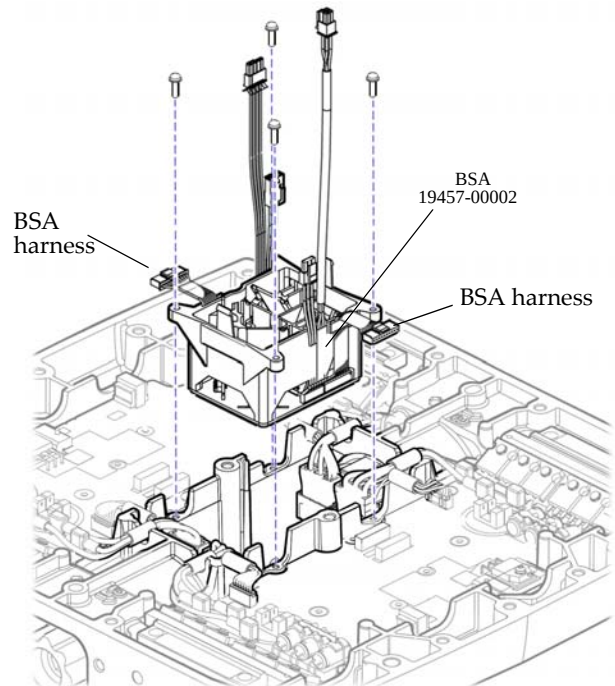

Figure 12-2: Disconnect Balance Sensor Assembly Harnesses from CU Boards
3. Thread (4) pan-head, M3 x 0.5 x 12, non-self-tapping screws (20972-00001) through balance sensor assembly mounting tabs and into chassis. See Figure 12-2.
5. Insert and seat (2) balance sensor assembly harnesses into A and B headers on CU board. See Figure 12-2.